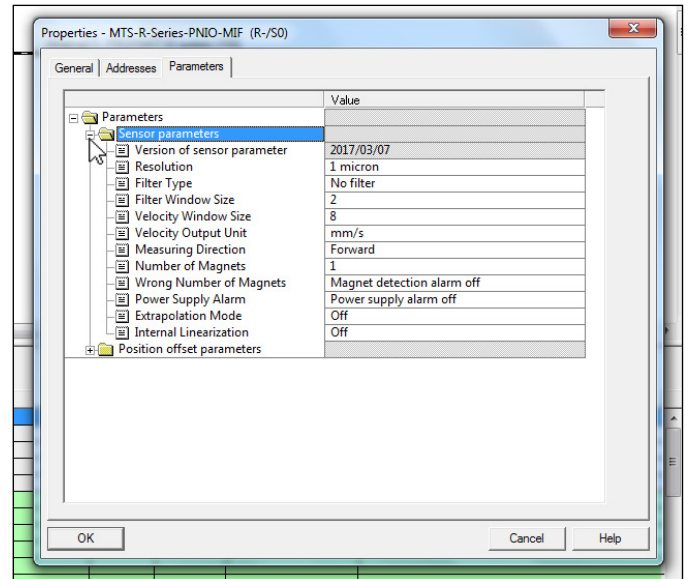

Fig. 66: Setting of the parameters of the R-Series V PROFINET with MTS profile
7. The window "Domain management - Ethernet" opens. In the "Sync Domain" tab under "Send clock time", set the cycle time with which the position or velocity values are requested from the sensor. Note the measurement cycle time of the sensor. If a polling cycle time is selected that is shorter than the measuring cycle time of the sensor, activate the "Extrapolation Mode" parameter for the sensor (see Fig. 66 for setting the parameters). Confirm the entry by clicking the "OK" button.